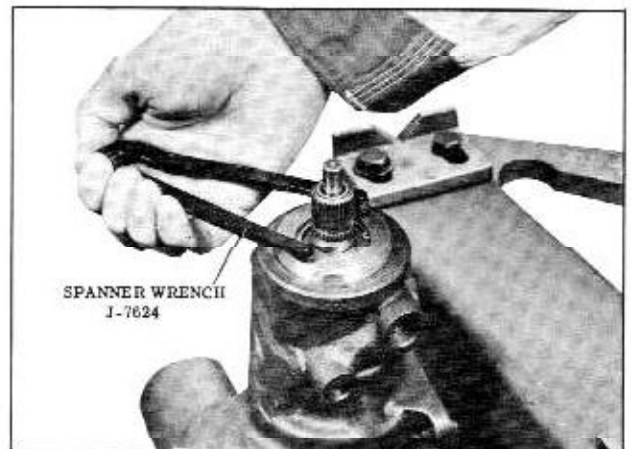

Fig. 4-45 Removing Adjuster Plug
- c. Remove adjuster plug assembly with Spanner Wrench J-7624. (Fig. 4-45) Remove and discard the plug "O" ring.